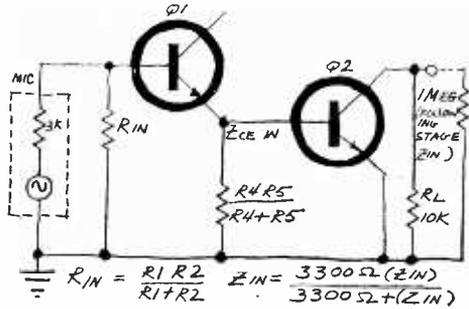

Fig. 7. Convert to equivalent ac design.
• 6. To calculate the ac values, redraw the circuit showing all bypassed resistors as shorts to ac and the input impedance of the following stage as resistors (Fig. 7). Note that R_1 and R_2 in parallel form R_{in} which is in parallel with Z_{in} of the emitter follower to form the amplifier input impedance. Since the input impedance of the emitter follower is dependent on the input impedance of the common emitter, we must determine the latter from Fig. 4A. Since $I_b = 0.36$ mA and beta is 50, the input impedance is 3600 ohms. The latter is in parallel with R_4 and R_5 , the bias resistors. The parallel value of R_4 and R_5 is approximately 8800 ohms, which, in parallel with 3600, comes to about 2560 ohms.